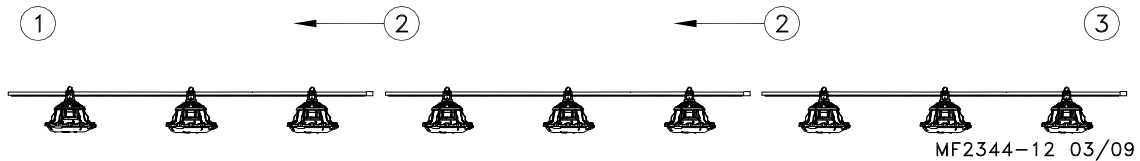

Figure 26. Assembling Feeders on the Tubes
1. The auger tubes and feeders may be laid out end to end in approximately the final location of the line. **The belled end of each tube should be toward the Hopper end of the line.** See **Figure 26**.